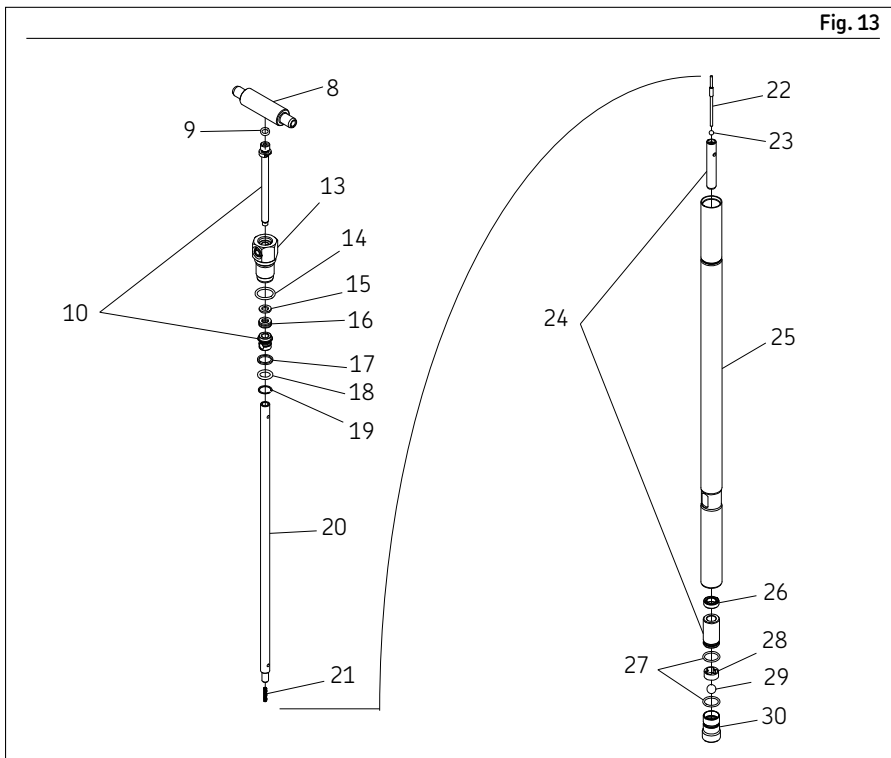

Fig. 13
- 1 Install ball (23) into lower bushing and plunger (24) (→ Fig. 13).
- 2 Insert check rod (22) into pump plunger (23).
- 3 Place spring (21) onto the check rod (22).
- 4 Thread plunger link rod (20) into pump plunger (24).